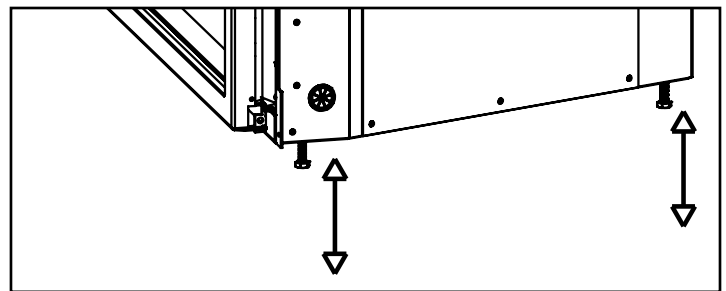

Figure 28: Levelling Legs Position.
8. Adjust the levelling legs to ensure the unit is level and high enough if a base shelf and/or riser is to be installed. There are four levelling legs on the bottom of the unit (shown in Figure 28).